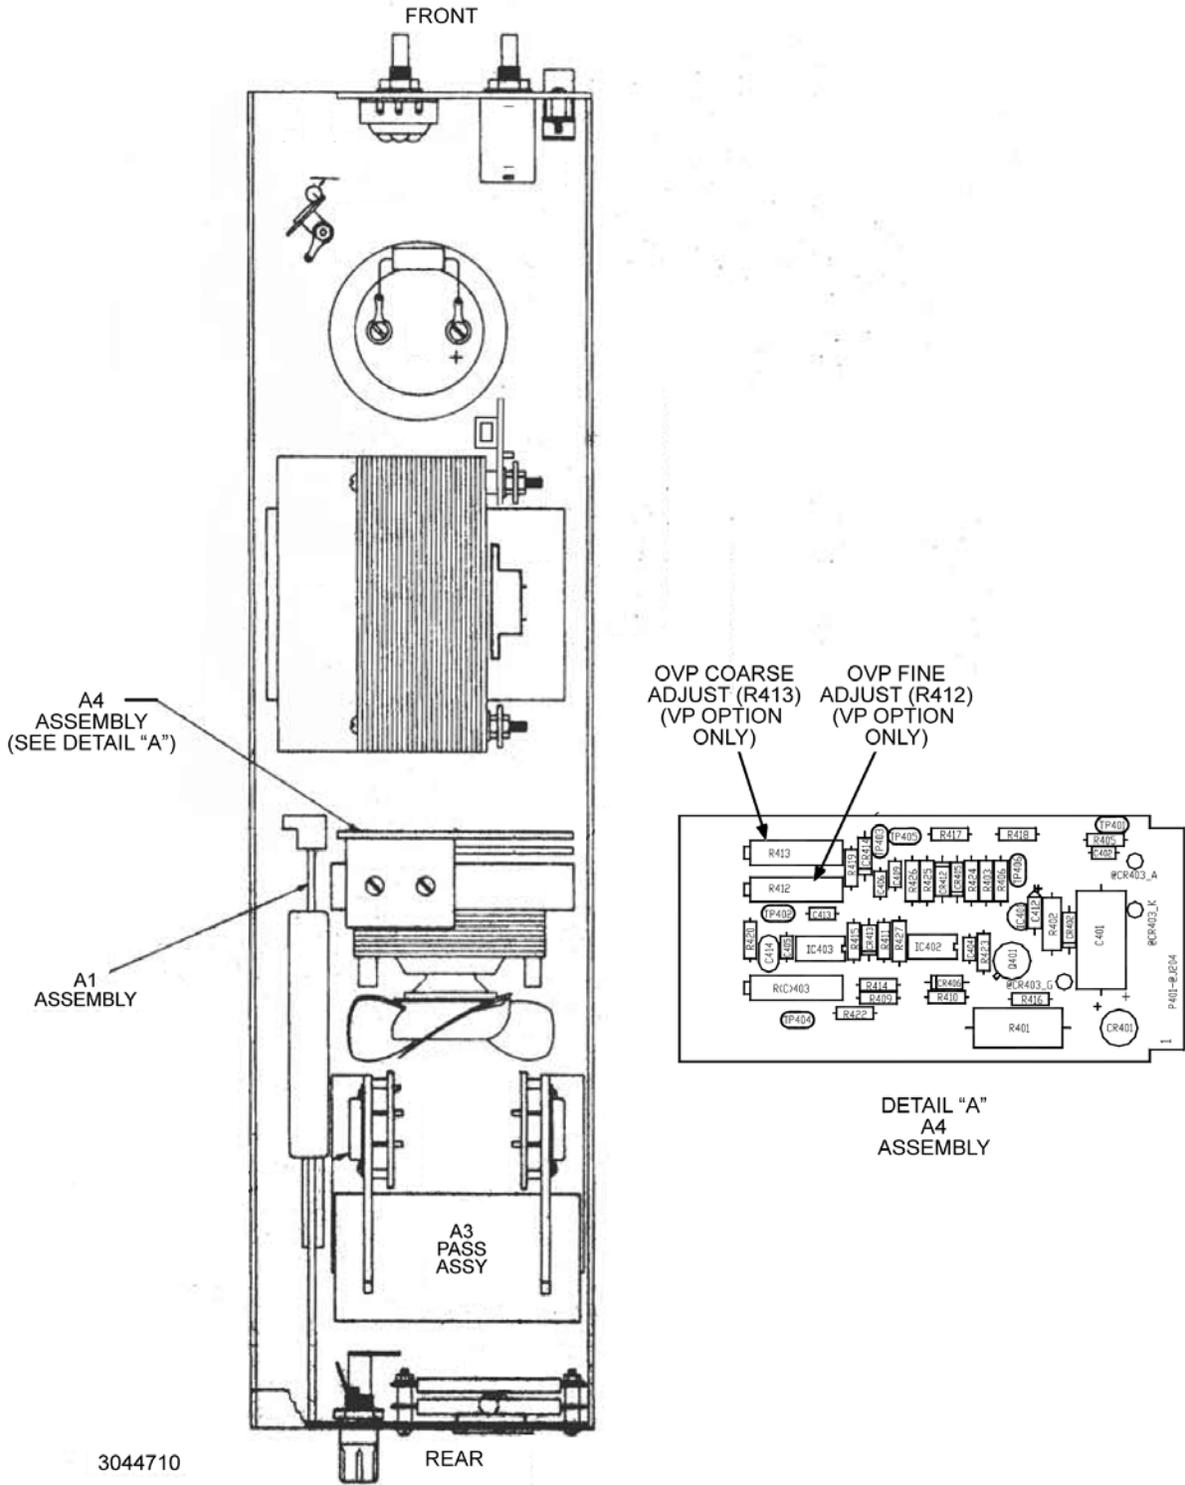

FIGURE 1. VP OPTION: OVERVOLTAGE LEVEL COARSE AND FINE ADJUSTMENTS
- c.1). (Models with "VP" suffix only): Check the "crowbar" action of the overvoltage protector by first adjusting the VOLTAGE CONTROL to about 1/4 of its range. Locate the OVERVOLTAGE LEVEL adjustments (R412. R413 refer to Figure 1, below) and turn the Coarse adjustment (R413) slowly counter-clockwise until the output voltage goes suddenly to zero as observed on the panel meter. Turn A-C POWER SWITCH off. Turn the OVERVOLTAGE LEVEL control (R413) fully clockwise again.